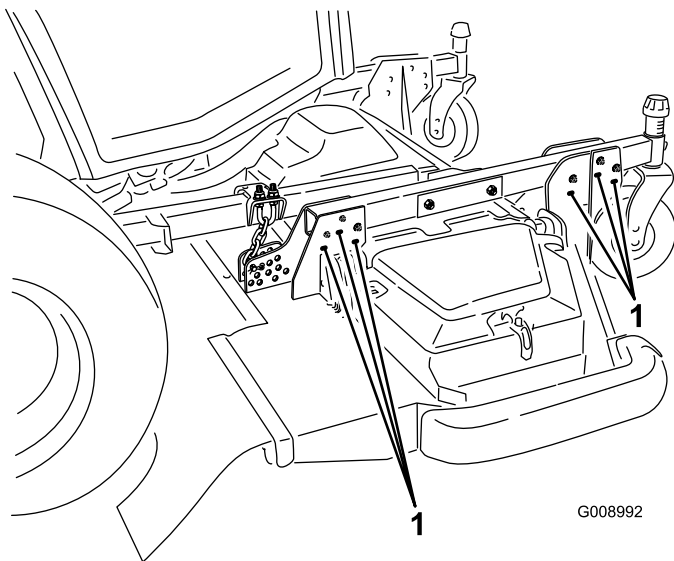

Figure 27
- To attain the 102 to 153 mm (5 to 6 inch) height of cut settings, remove the mounting bolts securing the deck hanger brackets to the height of cut castor arms and remount the deck hanger brackets to the height of cut castor arms using the lower set of holes (Figure 27).